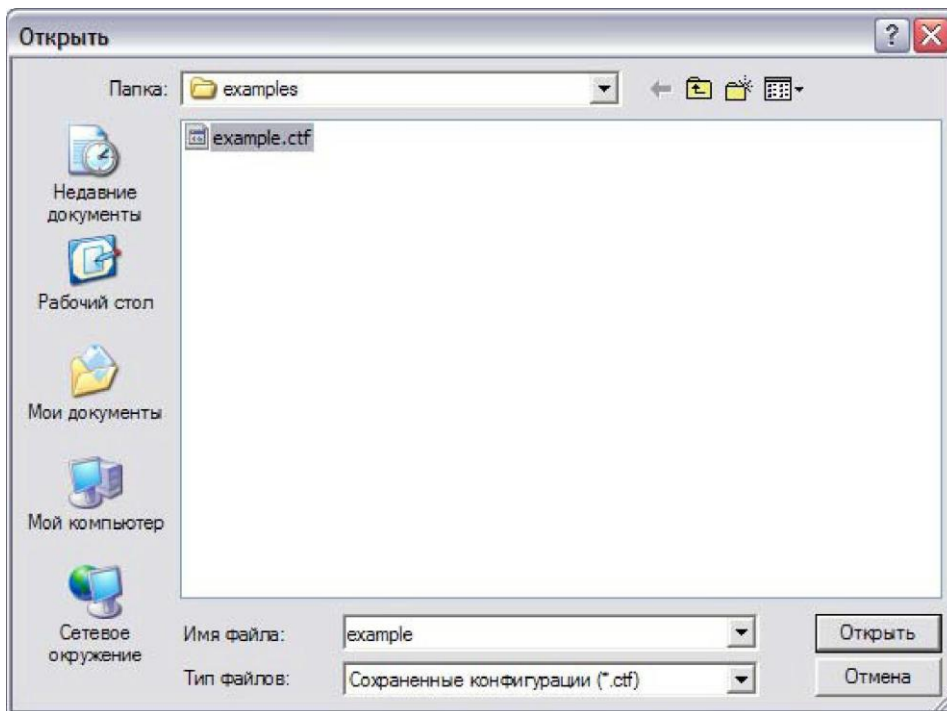

Fig.9
- Press button to load configurations (F4). Choose *.ctf file in the next window.(Fig.9)